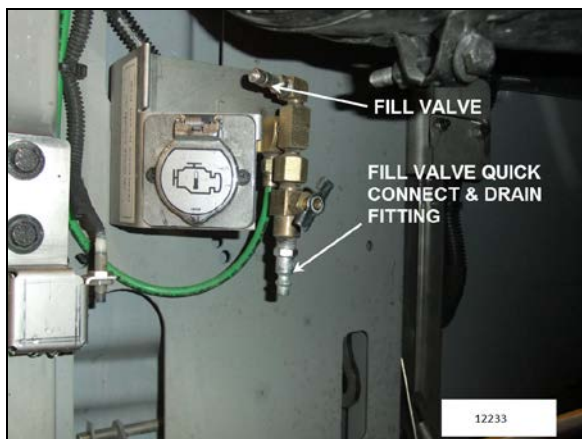

FIGURE 6: REAR VALVE LOCATION (TYPICAL)
The rear valve is located in the engine compartment and is accessible from engine compartment R.H. side door (Figure 6).
<h3>Accessory air filter element</h3> <p>Replace the accessory air filter element at the intervals specified by the Lubrication And Servicing Schedule in Section 24: LUBRICATION &amp; SERVICING or whenever differential pressure exceeds 15 psi (105 kPa) between filter inlet and outlet ports. Check condition of all three O-rings for damage. Replace when necessary (Figure 6).</p>
The air dryer and wet tank may be purged simultaneously for maintenance purposes using the drain cock on the emergency air system fill valve located in the engine compartment and accessible through the engine compartment R.H. side door (Figure 6).
1. Release air dryer pressure by opening the air dryer drain valve (Figure 6).